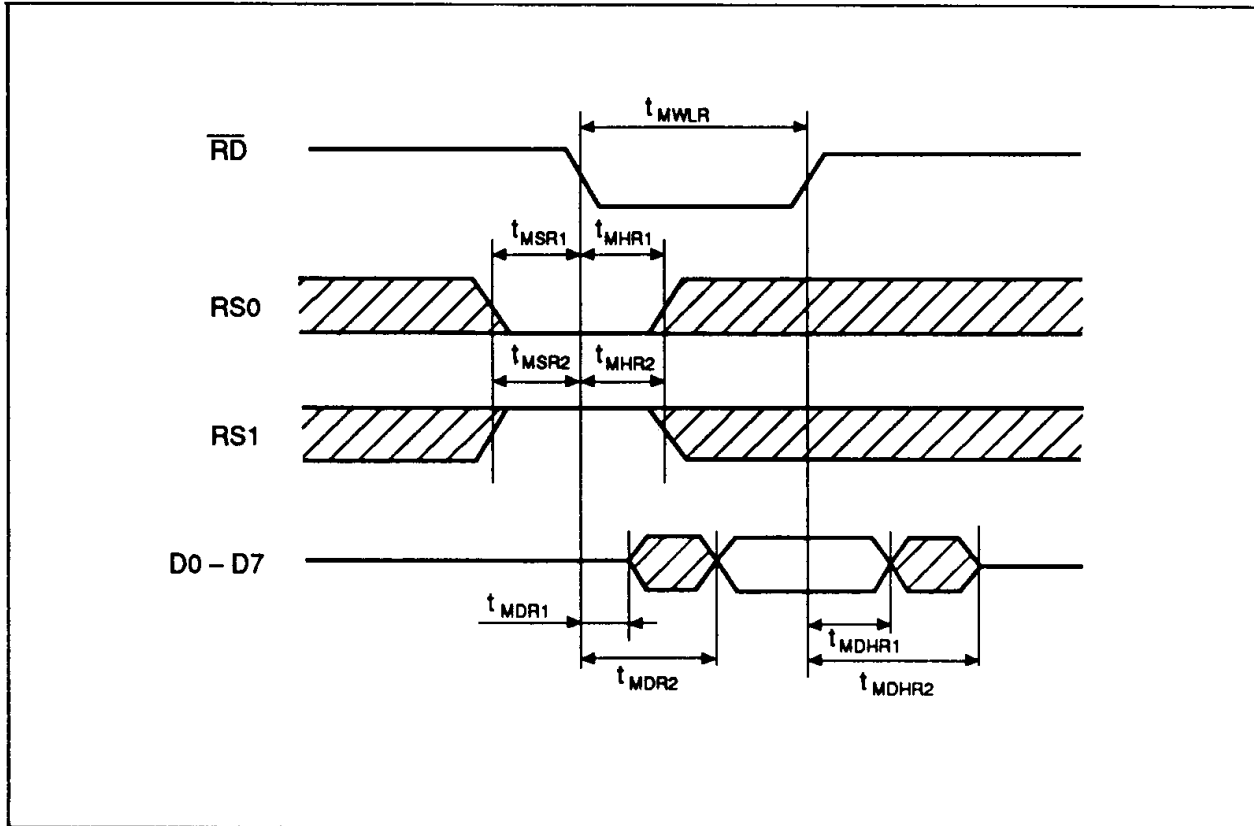

Figure 13 Pixel Mask Register Read
**Pixel mask register:** The pixel mask register allows displayed colors to be modified by altering the value input from video memory and the contents of the CLT. The pixel mask register is set by writing a pixel mask value to D7 (MSB) to D0 (LSB) with RS0 "0" and RS1 = "1" (in order to select the pixel mask register for a data write) as shown in figure 13. During color palette operations, the value input from video memory at P7 (MSB) to P0 (LSB) is ANDed with the pixel mask register value, and the resulting value is applied as an address to the CLT. Consequently, pixel mask "0" bits will cancel corresponding video memory value "1" bits. The following table shows the CLT address that results for a particular pixel mask register value and video memory value.